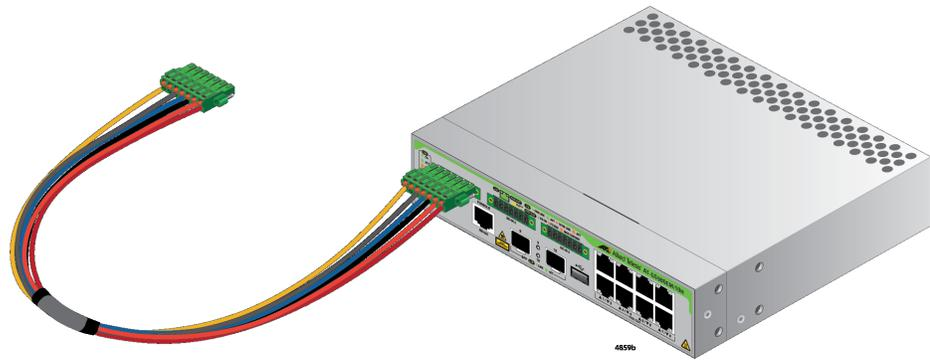

Figure 62. Connecting the External Harness to the GS980EM/10H Switch
2. Connect one end of the external harness to the GS980EM/10H switch. Refer to Figure 62.